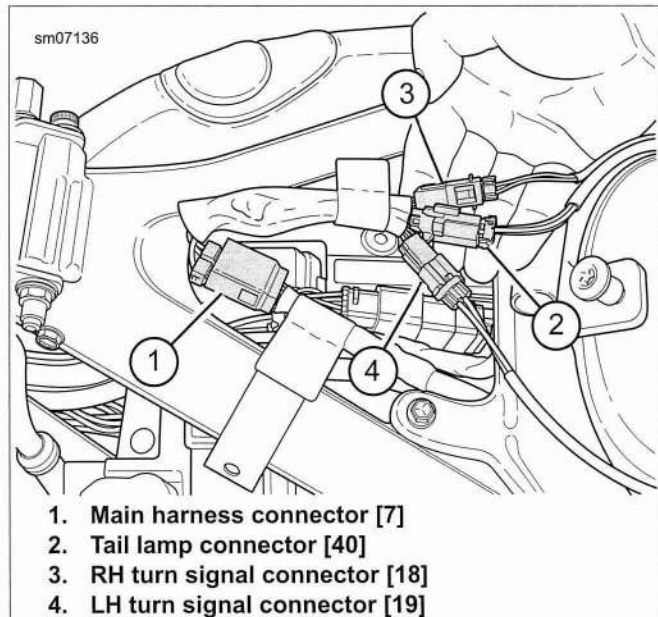

Figure 2-199. Turn Signal Wire Harness: XL 1200C/CP
3. See Figure 2-199. Disconnect the right [18] (3) and left [19] (4) turn signal connectors and the tail lamp connector [40] (2).